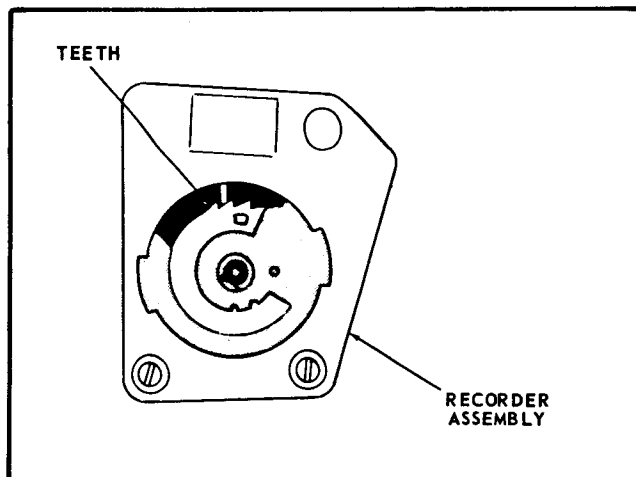

FIGURE 15
57. Hold the Coin Mechanism in the in-cabinet position (Coin Doors toward Bottom) and deposit one quarter in the front slot in the Coin Plate Assembly. The red plastic rotating ratchet in the recorder has teeth around the outer edge, the quarter should rotate the ratchet three teeth. See Figure 15.